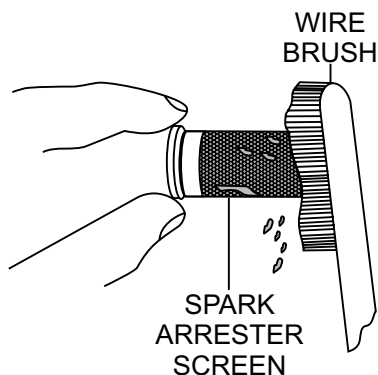

Figure 53. Cleaning The Spark Arrester
4. Carefully remove carbon deposits from the spark arrester screen (Figure 53) with a wire brush.